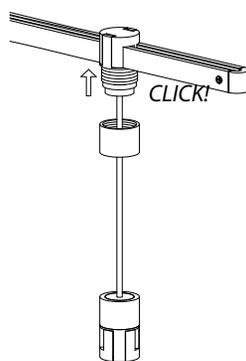

Fig. 9
2. Insert the **Hanger Clip** through the Hanger Hub and press up on the Hanger clip until Hanger Clip clicks into place. (Fig. 9)